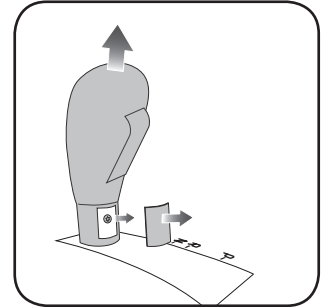

Fig. 1.4
4. (Automatic transmission) Remove a small cover on the front of the shifter to expose (1) torx screw. Remove the screw and shifter. (Fig. 1.4)